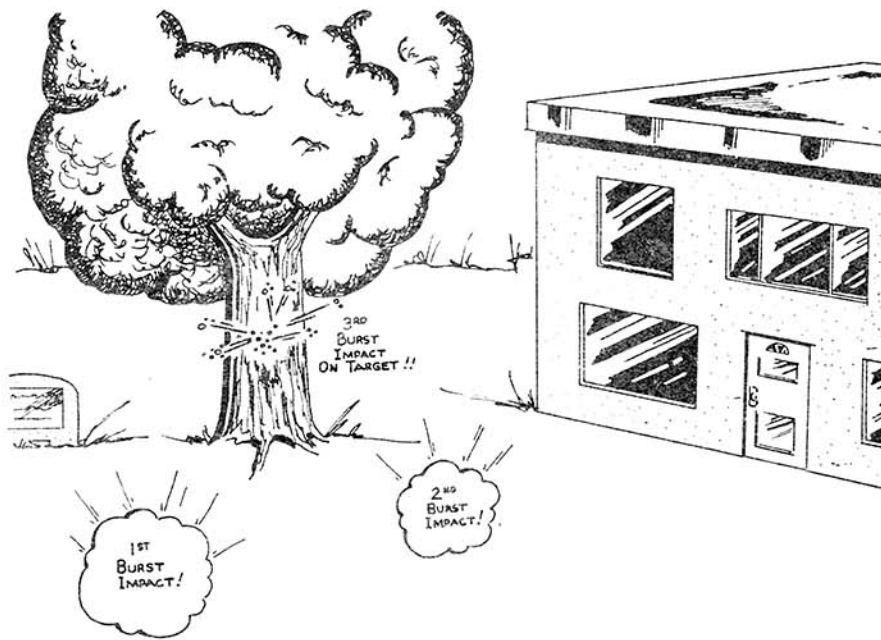

Figure 2-3. — Fire and Adjust.
2. **Fire and Adjust.** The rear sight is lowered, and the gunner fires a burst. Chances are, it will not hit the target — in our example it did not. The team leader spots the gunner's burst and directs the gunner to make adjustments with the T&E and fire again until the target is hit (Figure 2-3).